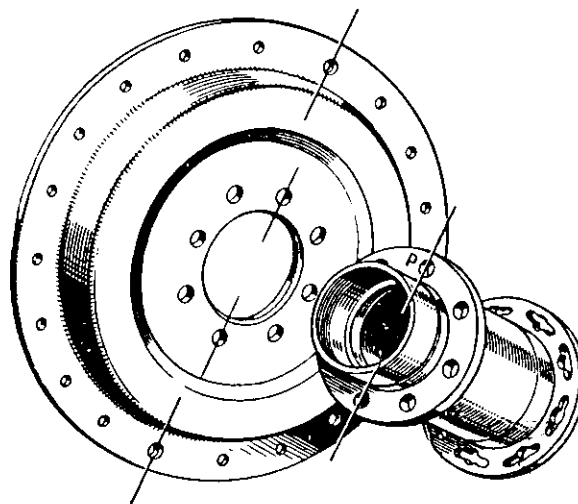

Fig. 7. To Fit the Front Brake Drum to the Hub.
18. If the spokes are to be correctly laced, the drum must be bolted to the hub in the appropriate position. Place the drum, open end down on the bench and find the two opposite countersunk spoke holes in the outer edge which are exactly in line with two of the hub bolt holes. It will be noticed that one of the bolt holes on the hub is marked with one of the letters of the alphabet on the face which is bolted against the brake drum. This marked hole (See Fig. 7), should be lined up with either of the bolt holes on the drum described above and the hub and the brake drum bolted together in this position with the four locking plates beneath the nuts. If the rim is held vertically and the nipple depression on the part of the rim farthest away, are examined, it will be seen that the holes biased to one side of the rim are more offset and nearer the well of the rim than those on the other side. Those at the greater angle are for the shorter, drum side, spokes. Build up the